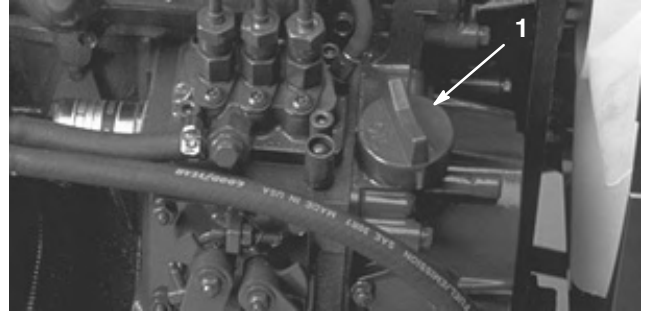

Figure 11
3. If the oil level is low, remove the oil fill cap (Fig. 11) and gradually add small quantities of oil, checking the level frequently, until the level reaches the FULL mark on the dipstick.